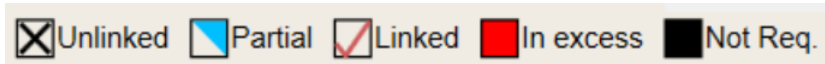

Figure 20 The various linked states of a HFBS department, HFBS room and HFBS room item.
On completion of this operation, the HFBS room item in the *Project Manager* window will appear with a linked (T) icon next to it, where the linked Revit room will have a populated HFBS shared parameter (*HFBS_Room_Tag_Text*) based on the ID of the HFBS room item. The shared parameter can contain multiple comma-separated ID values (see Figure 20).
The key for these different linked states can be found at the top panel of the *Project Manager* window (see Figure 20).